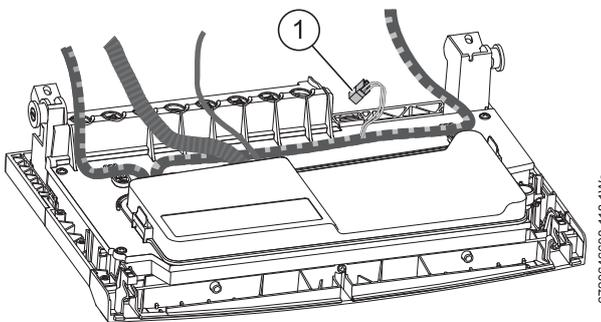

Fig. 27 Unused connector
i Refer to Figure 27. The connector (1) in the wiring harness is provided for the installation of the Domestic Hot Water Pre-Heat accessory - 7 716 192 735